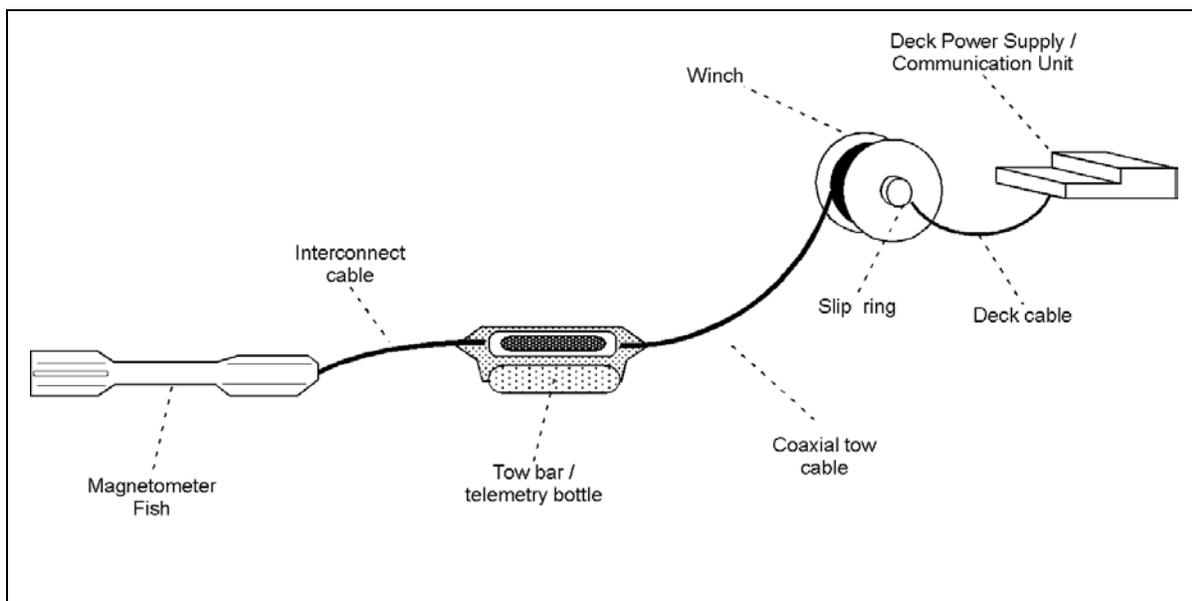
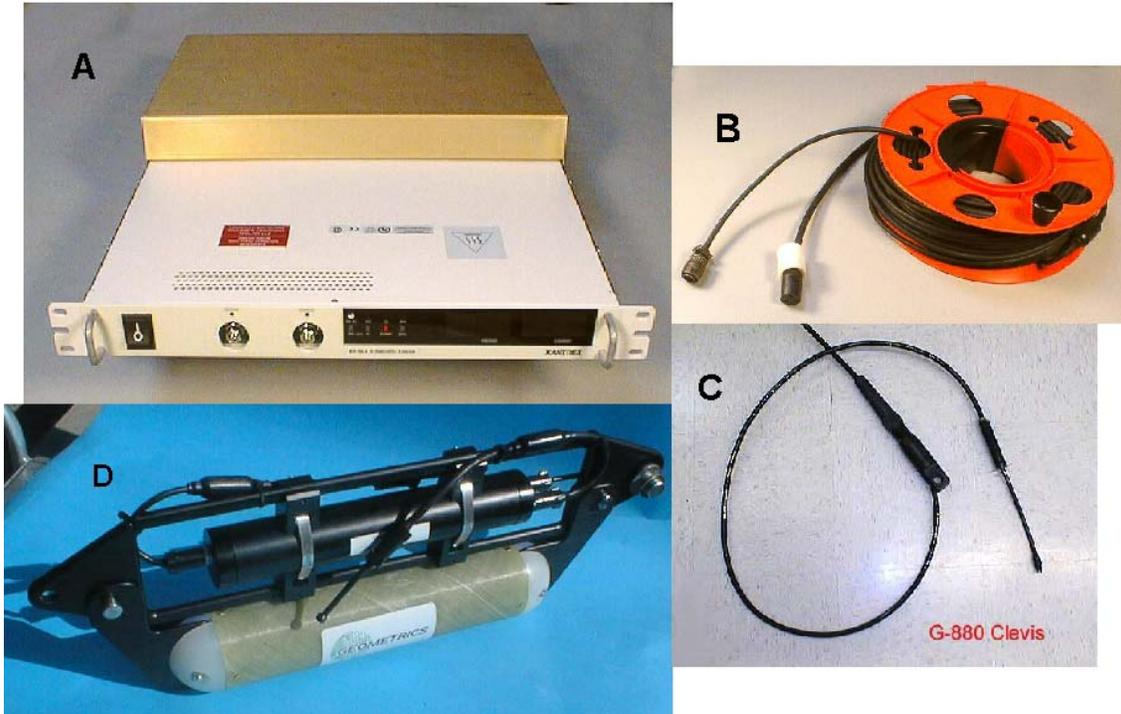

Figure 1. Simple telemetry system.
Figure 3. Standard telemetry components.
| Figure 1. | Simple telemetry system. | 1 |
| Figure 3. | Standard telemetry components. | 6 |
Geometrics marine magnetometers are powered by low-voltage (24v) sources and are equipped for two-way communication using an RS-232 serial data format. This power/communication method employs a 5 conductor tow cable and is limited by power and signal loss to cable lengths of 1000 ft (305m) or less. The low voltage/serial data scheme has several advantages but will not support operation on longer cables. To permit operation on cables longer than 1000 ft. Geometrics provides the telemetry system described in this manual. It is designed to provide power and data telecommunications for Geometrics' cesium-vapor marine magnetometer models G-880, G-881, and G-882 and will allow them to be operated on coaxial tow cable up to 10 km long. An illustration showing the major components comprising a typical system is shown in Figure 1.
As shown in Figure 1, the telemetry system comprises four (4) major components. These are the Xantrex deck power supply with communications unit, the on-board deck interlock cable, the coaxial interconnect cable with clevis termination, and the tow bar / wet-end telemetry bottle. Photographs of these four components are show in Figure 3. These images can be used to identify the components and their associated cables. If the telemetry system is provided by Geometrics as an integrated system and a coaxial tow cable is included, no splicing or other direct wiring will be required. However, if the user will be attaching the Telemetry System to a coax cable system not supplied by Geometrics, then the information provided in section 3.2 shows the correct method for connecting the coaxial cable to the deck and telemetry bottle cables.
Appendix Figure 3. Interlock Pigtail Cable.